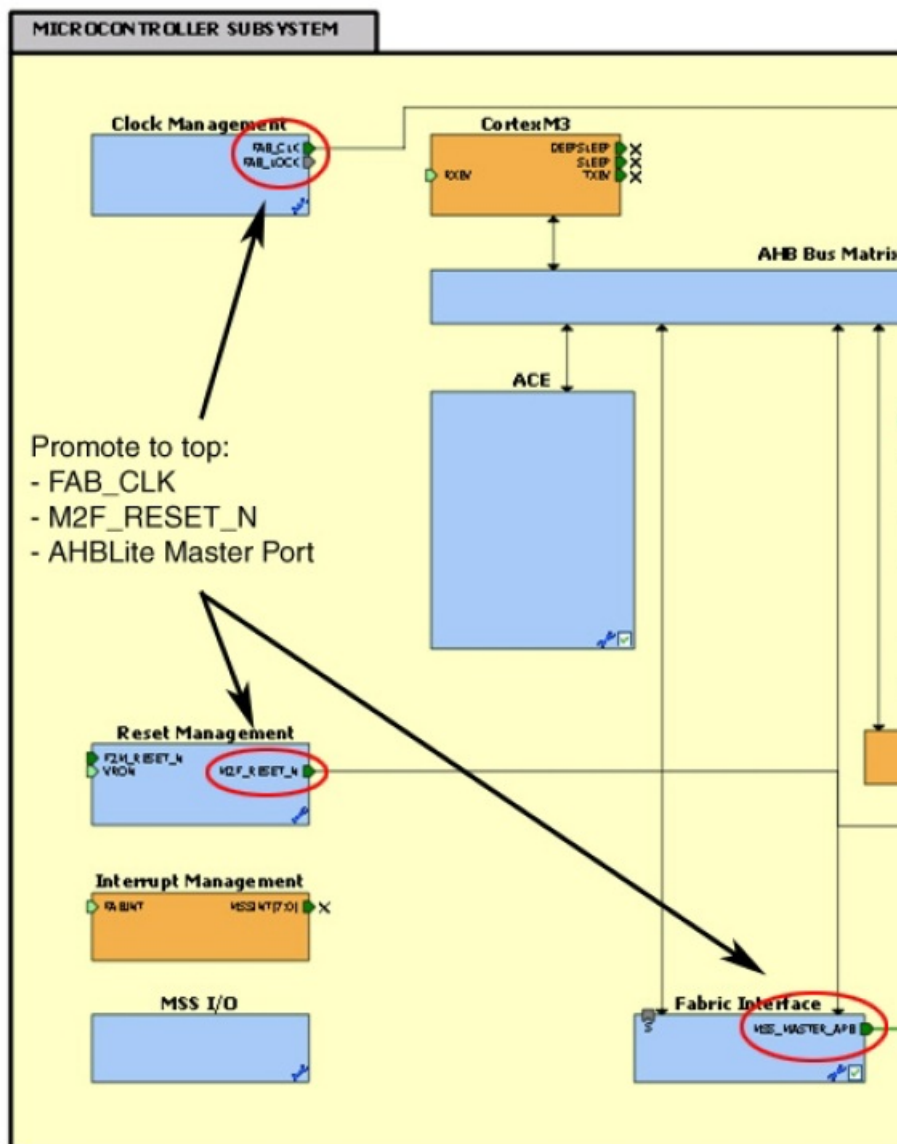

Figure 1-3 · Promote FAB_CLK, M2F_RESET_N and AHBLite Master Port
Step 3. Promote the Fabric Interface AHBLite Bus Interface (BIF) master port (as shown in Figure 1-3).
Step 4. Promote FAB_CLK to make it a port (as shown in Figure 1-3).